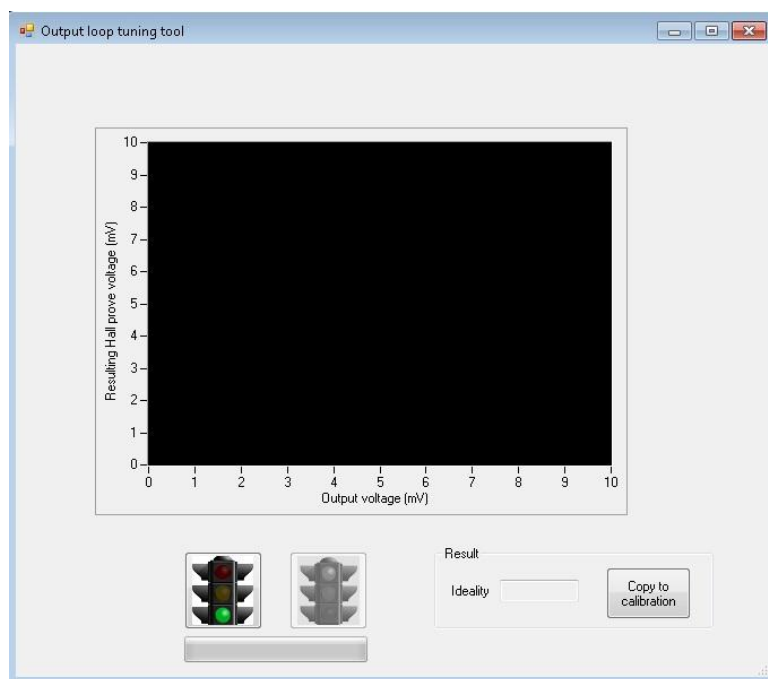

Figure 26: The Output loop tuning tool window
Select the electromagnet that is currently connected, ensure that the electromagnet power supplies are switched on and click Launch (X) in the Output loop tuning tool panel to open the Output loop tuning tool window (see Figure 26.)